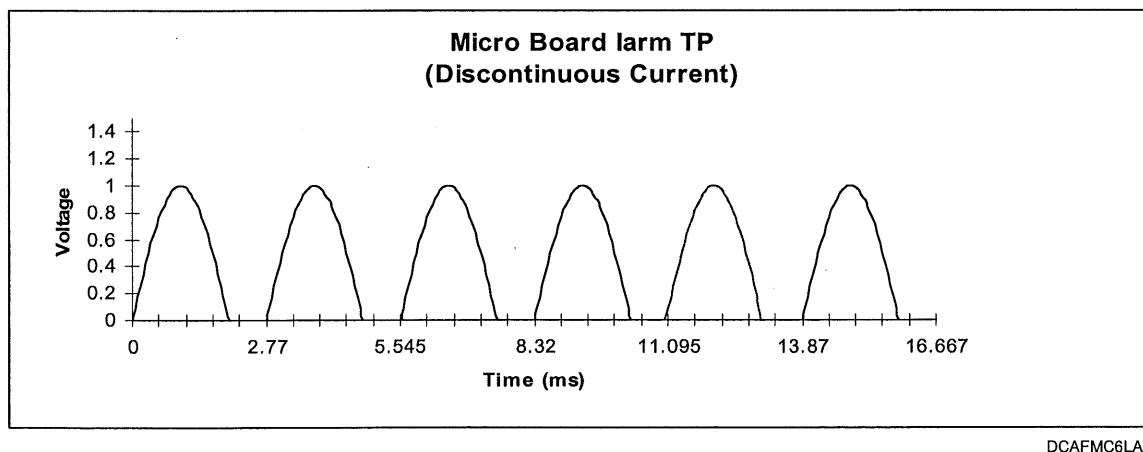

Figure 3-6. Micro Board Iarm TP (Discontinuous Current)
- 14) With an observable current flow at a burden resistor, move the scope probe to measure across the Iarm sense and common points on the bottom left of the microprocessor board. If all wiring and CT polarities are correct, the waveform should resemble that of Figure 3-6. If you observe this waveform, go to step 24, or continue on to step 15 if you **do not** observe this waveform.
- 16) If the voltage observed on the scope is negative, instead of the positive pulses shown in Figure 3-6, reverse all CT polarities. If the CT leads are difficult to reach, switch the wires for all CTs at J1 of the SCR Firing Adapter.